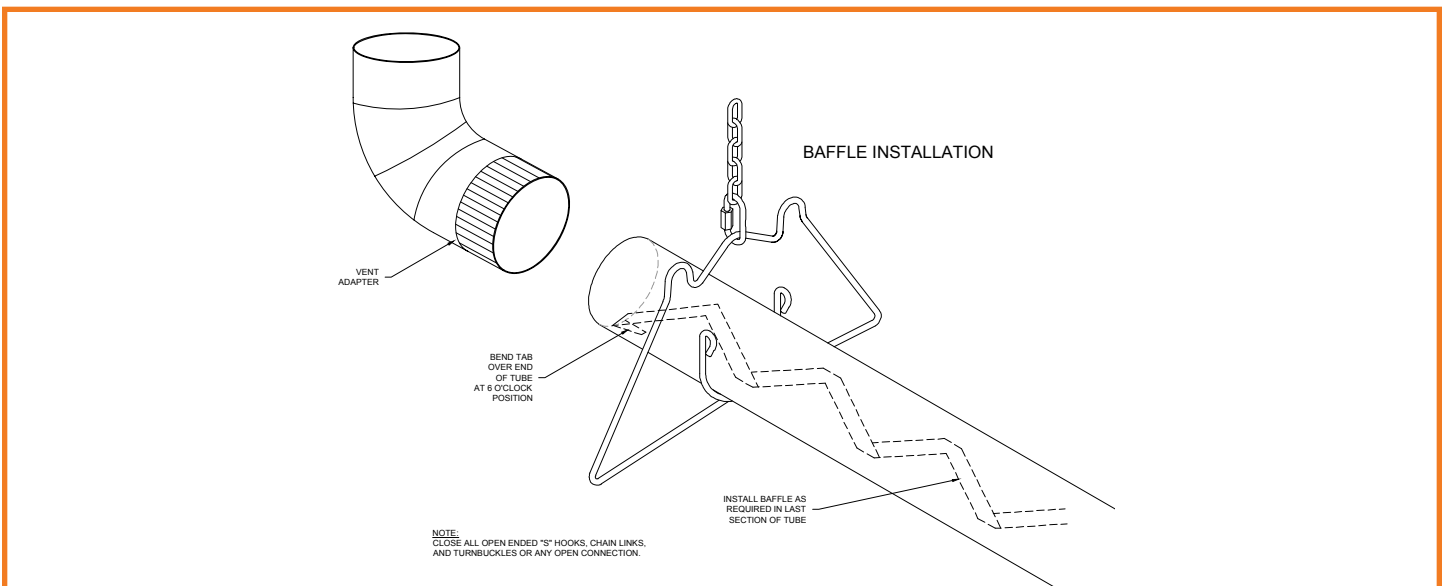

Figure 13: Baffle Installation
- If required for your heater model (refer to Table 1), install the baffle at the end of the heat exchanger. The small tab on the baffle is folded over the end of the tube and clamped in place by the vent connector and vent system, (refer to Figure 13).